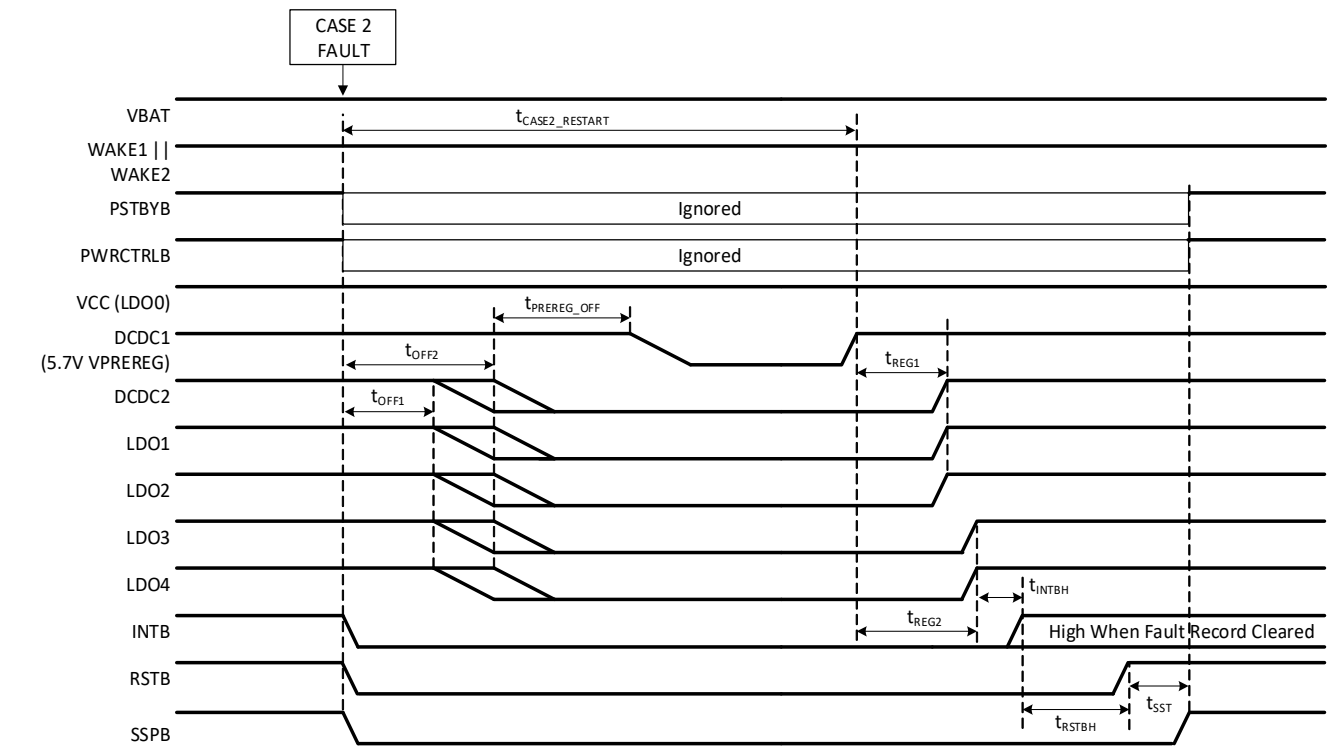

Figure 30. Case 2 Fault Timing
- Case 2 – Fault requires forced cycle off of DCDC1, DCDC2, LDO1-LDO4, and RSTB low and automatic restart. The restart time is dependent on the longest OPT_WAIT_DISCHG setting. For example, if one of the regulators being restarted has an OPT_WAIT_DISCHG setting of 50ms, the PMIC does not attempt to restart until after this 50ms time period has expired. Figure 30 shows timing for Case 2 faults.